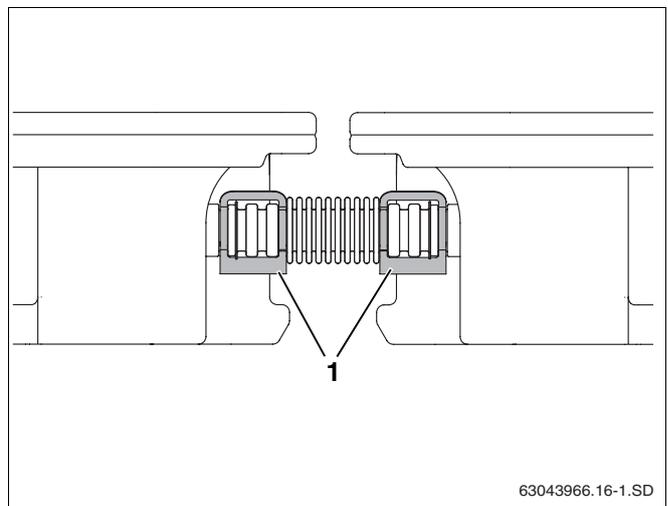

Fig. 50 Corrugated pipe connector secured with brackets
- ▶ Secure each end cap with one bracket and each corrugated pipe connector with two brackets (Fig. 50, **Item 1**).